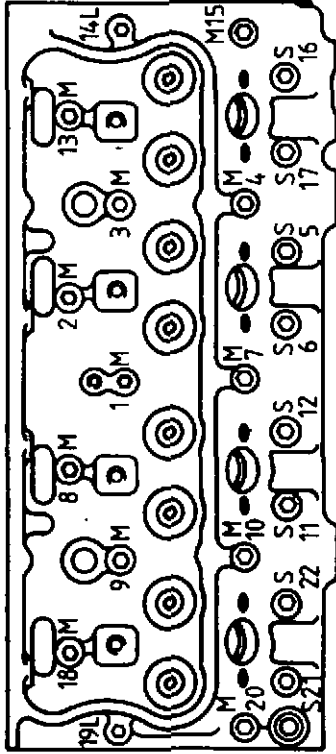

Fig. 7 Sequence to tighten cylinder head
- 3 Check the tension of the cylinder head nuts/setscrews in the correct sequence (see fig. 7). The correct torque tension for 4.236 and 4.248 engines is 136 Nm (100 lbf ft) 13,8 kgf m for 1/2 in studs or setscrews, or 81 Nm (60 lbf ft) 8,3 kgf m for 7/16 in studs.